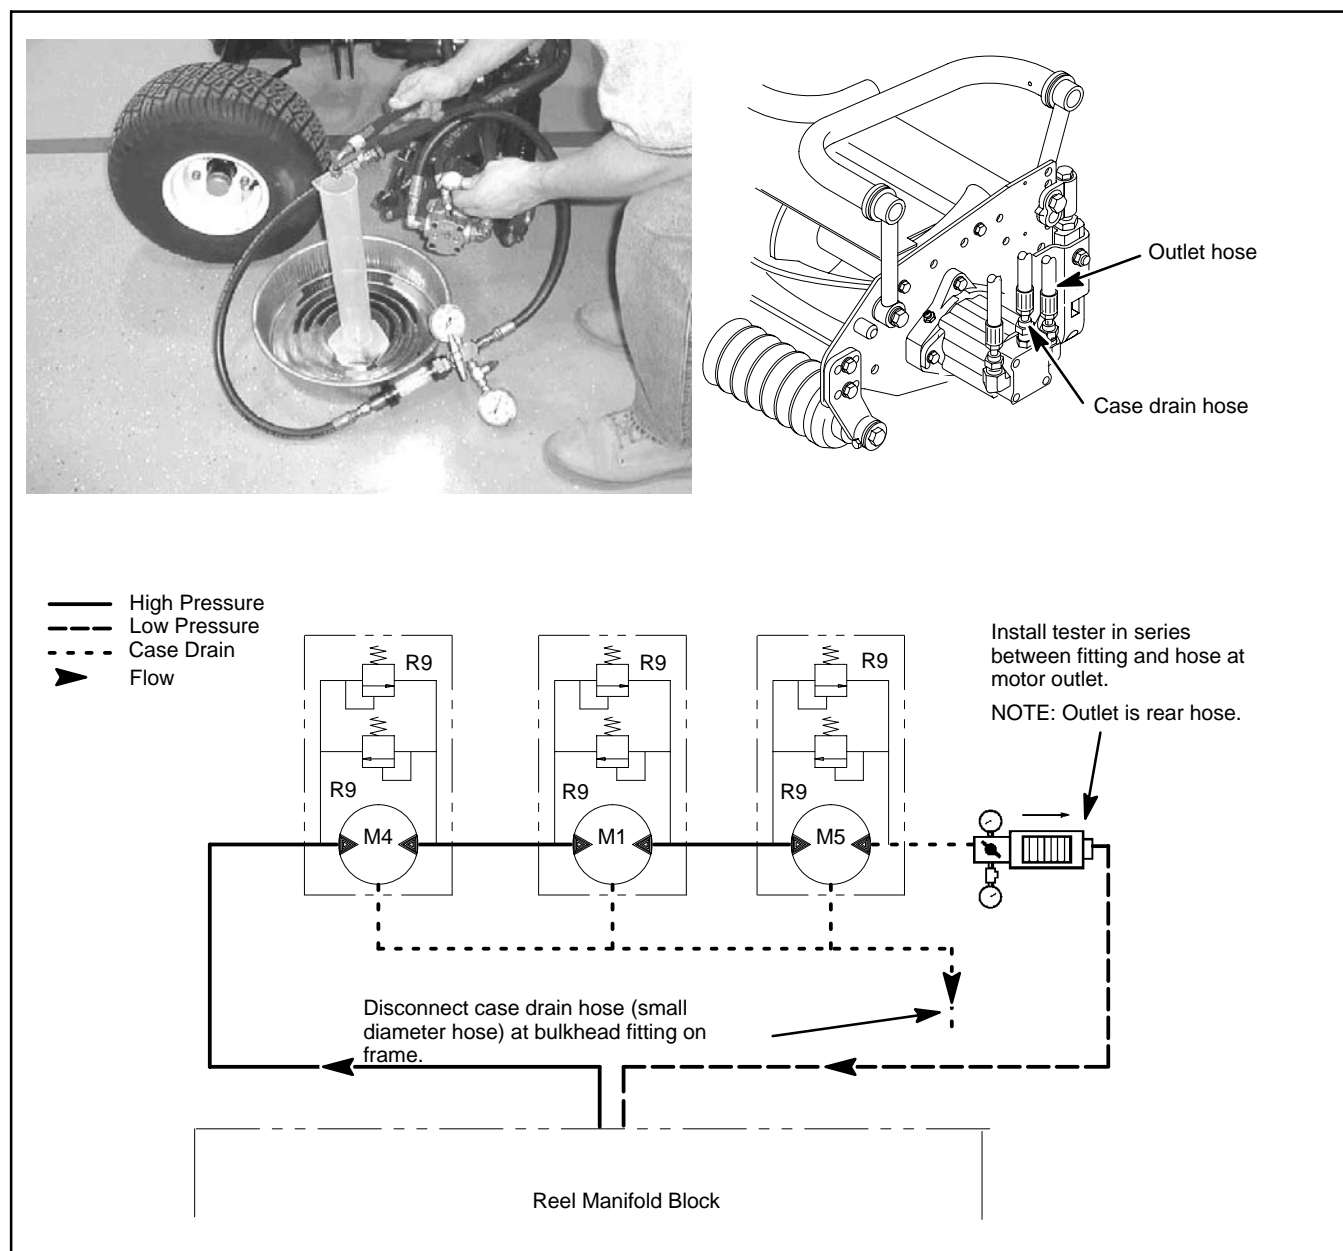

Figure 21
4. Disconnect the motor case drain hose (small diameter hose) where it connects to traction unit (not at the motor). Put a steel cap on the fitting at the traction unit; leave the case drain hose open (Fig. 21)
5. Disconnect hose from return of the motor to be tested. Install tester in series with the motor and disconnected return hose. Make sure the flow control valve on tester is fully open. (Fig. 21).
Note: Use a graduated container, special tool TOR4077, to measure case drain leakage (Fig. 21).